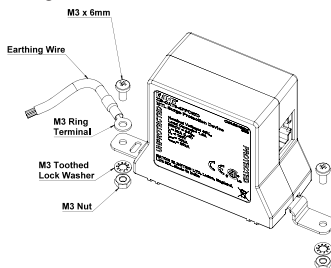

Figure 1 - Stand-alone Installation
3. To install the SPD unit as a stand-alone unit, attach a ground wire (minimum #16AWG for Secondary Protector) to the SPD using the recommended accessories and using screws(or bolts) as appropriate, mount the unit to the flat surface (see figure 1).